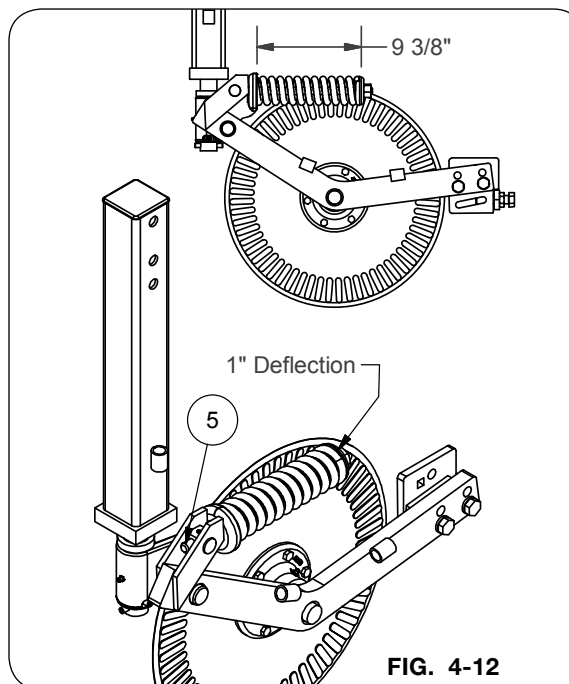

FIG. 4-12
4. Tighten bolt until a deflection of 1" is obtained on spring (FIG. 4-12).